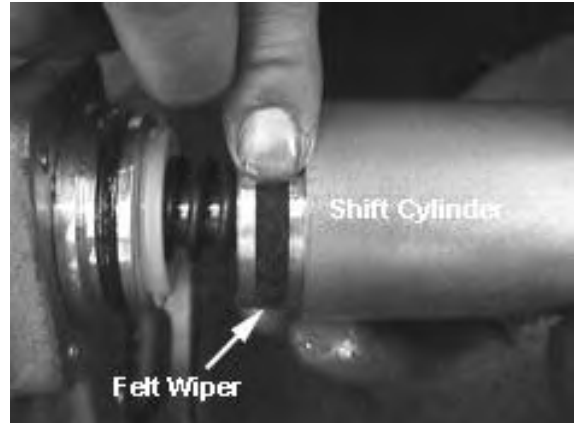

Fig. 80
38. Install an oil-soaked felt wiper into the large groove on the shift piston and install shift cylinder. *See Fig. 80.*